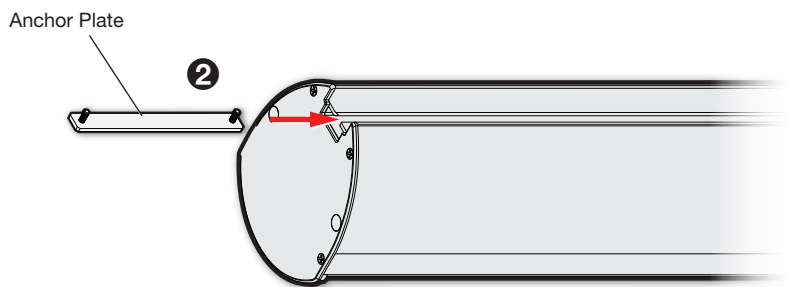

Figure 12. Slide Anchor Plate into T-slot
- Brace the top of the speaker with your hand as you remove the top-end foam piece (see figure 12, ①).